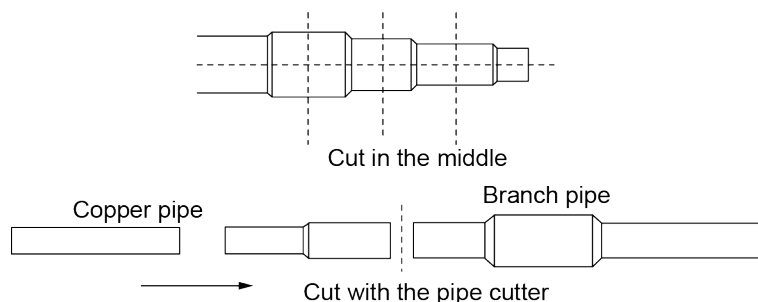

Fig.4.24
- (3) Manifold has several pipe sections with different pipe size, which facilitates to match with various copper pipe. Use pipe cutter to cut in the middle of the pipe section with different pipe size. See the Fig.4.24 as below.